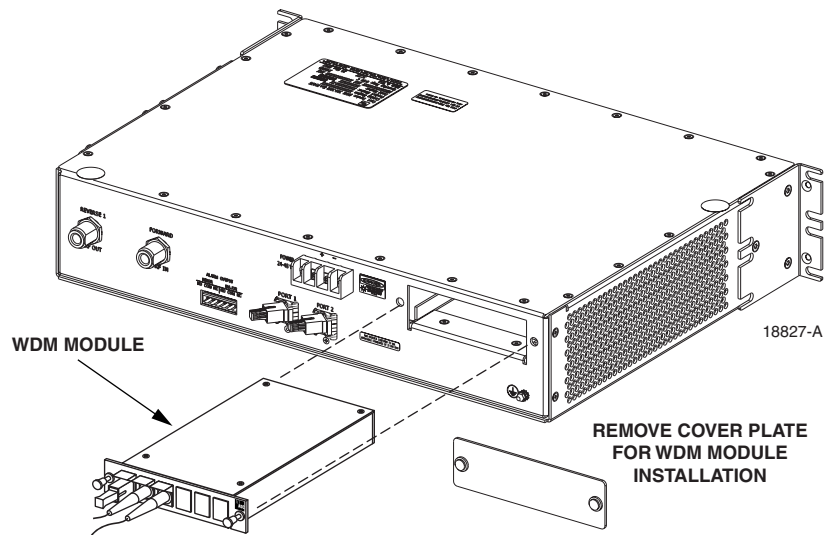

Figure 3-6. WDM Installation
1. Remove the cover plate from the WDM mounting slot located on the rear side of the HU as shown in Figure 3-6.